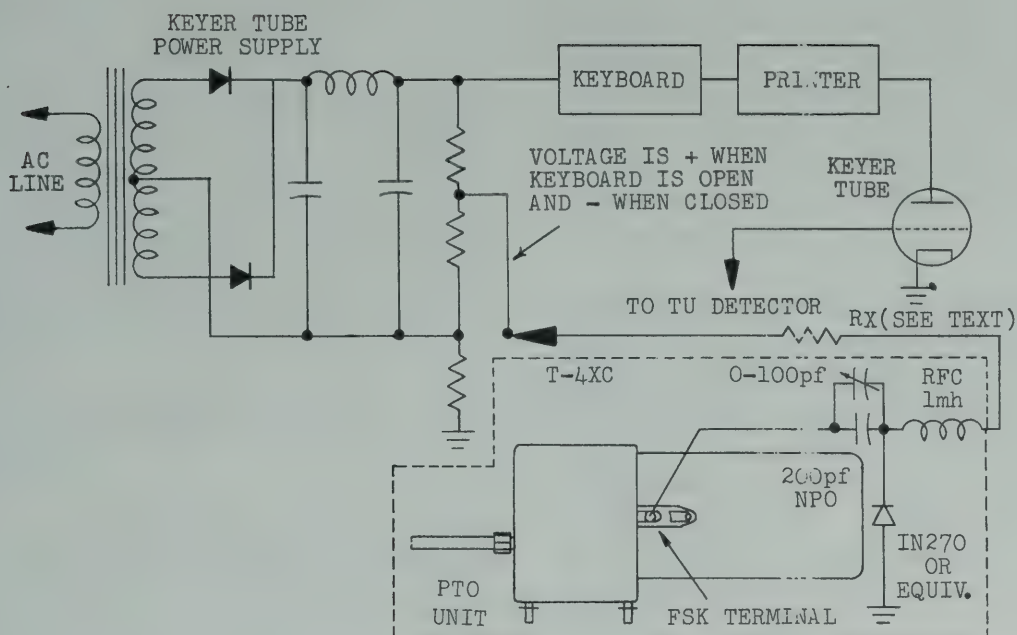

Figure 3-3. FSK Circuit
- a. An appropriate shift circuit can be connected to the FSK terminal on the side of the PTO. Several shift circuits have been published which accomplish the shift. Some examples of possible keying circuits are described in an article by Irvin Hoff in the May, 1965, issue of QST. The only modification is that instead of connecting the shift capacitor to the "VFO cathode", this point is connected to the FSK terminal on the side of the PTO. Refer to figure 3-3. The FSK terminal on the PTO in the T-4XC is a small lug located between the prongs of the mounting clip on the right side of the PTO as viewed from the front panel.
One example of such a shift circuit is shown in figure 3-3. The capacitor values are based on 850 Hz shift and thus smaller values will be needed for narrow shift. The value of RX should be selected to limit the current through the 1N270 shift diode to about 1 mA.